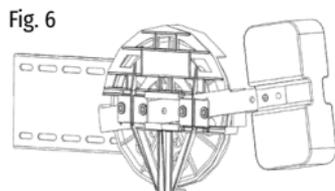

Fig. 6
- 1 pcs 2 5 Kg weight Tension Pulley Fig 6